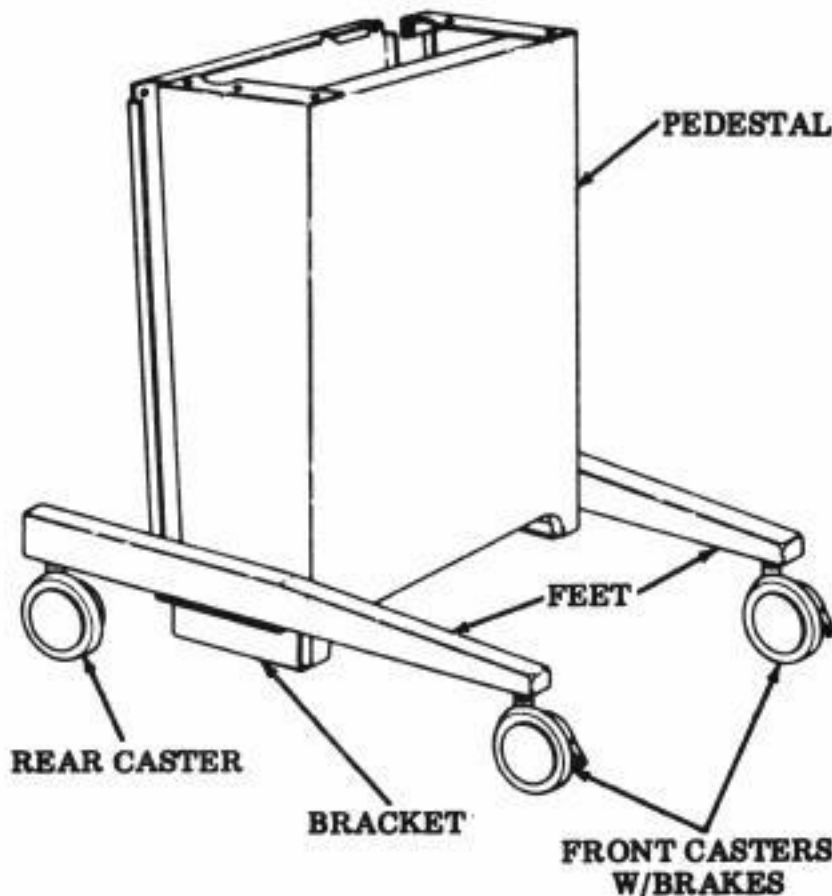

Figure 18 - Mobile Cabinet
2.51 The modification kit consists of two feet, two brackets, four casters, and mounting hardware. The two feet, unlike the ones the cabinet is normally equipped with, are longer so as to extend beyond the rear of the cabinet to provide additional stability. When installed (see Figure 18), the modification kit provides a means of easily moving the set that is used in applica-